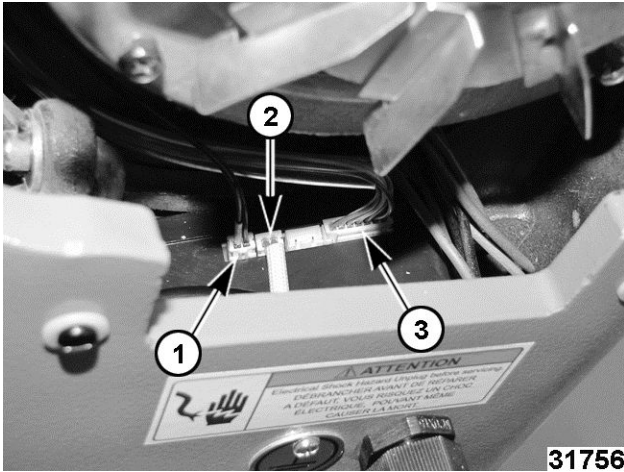

Fig. 51
4. Remove harnesses (1,2,3, Fig. 51) from top of power board.